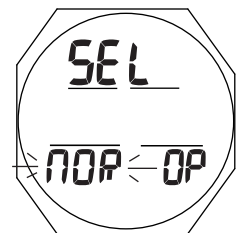

Fig. 56 - SELECT DIVE OPERATING MODE
**Select Operating Mode**, information includes (Fig. 56):